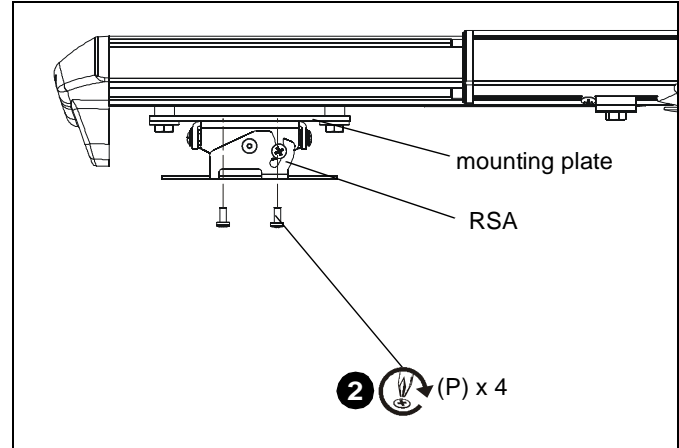

Figure 17
2. Install four #10-24 x 3/8" Phillips pan machine screws (P) through RSA holes and into projector mounting plate. (See Figure 17)